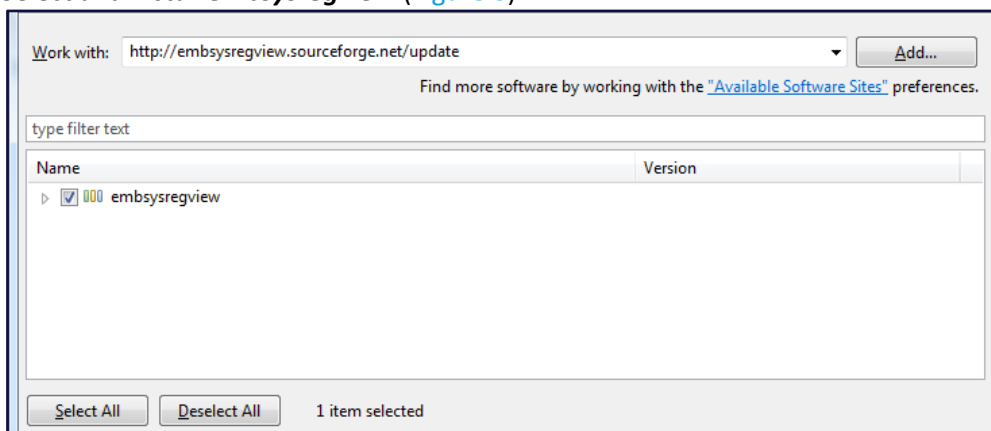

Figure 8: Installing embsysregview
3. Select and install **embsysregview** (Figure 8).